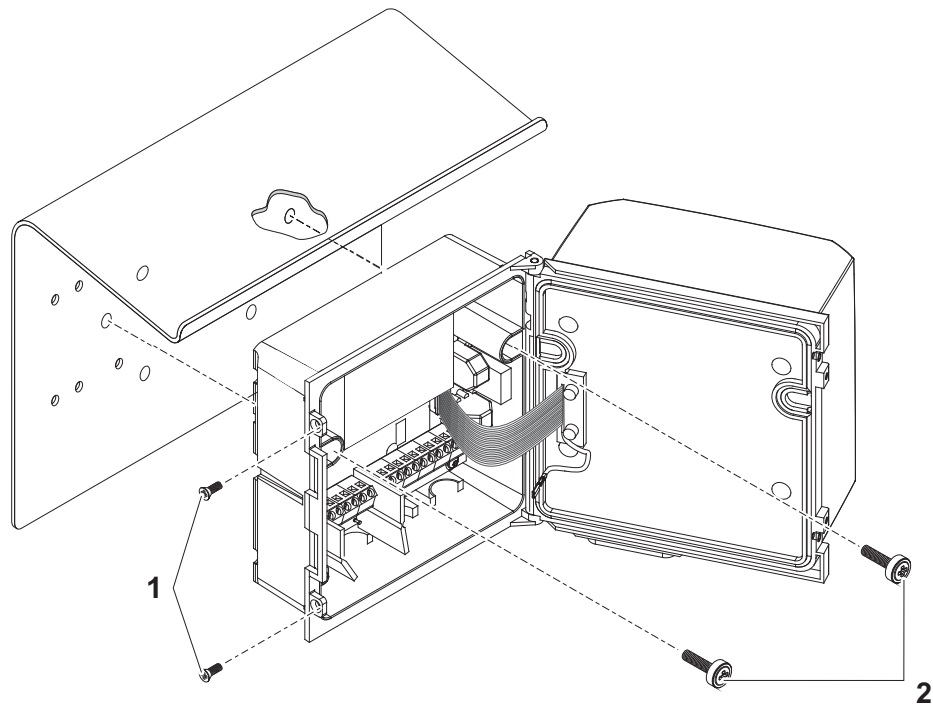

figure 3-21 Mounting the DIQ/S 281 with sun shield SD/K 170
- 1 Remove the two countersunk screws (pos. 1 in figure 3-21) and swing open the module lid.
- 2 Position the universal transmitter on the sun shield and fix it into place with the two screws (pos. 2 in figure 3-21).
- 3 Close the lid and fix it with the two countersunk screws (pos. 1 in figure 3-21).